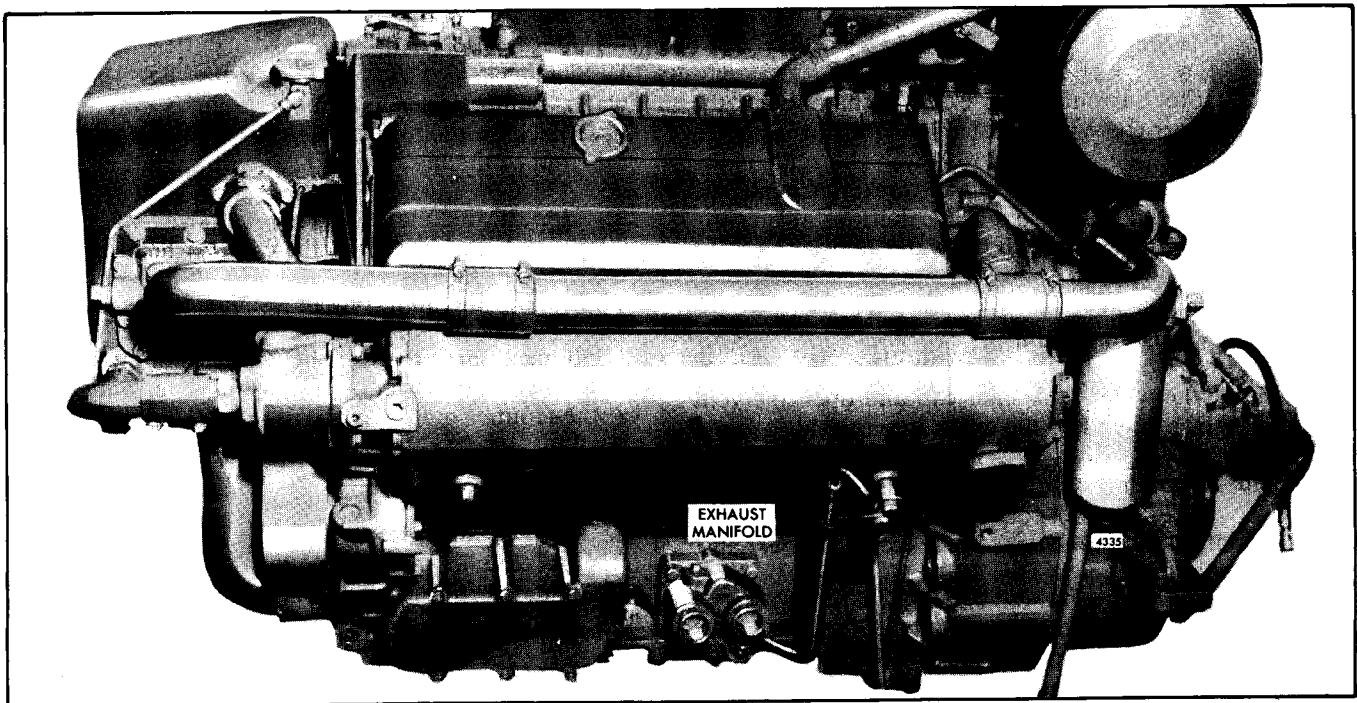

Fig. 2 - Typical Water-Cooled Exhaust Manifold Mounting (8V Engine)
3. Install the washers and nuts on the studs. If beveled (dished) washers are used, position them so that the crown side faces the nut. On some engines, crabs are used in place of washers at the end positions (Fig. 2). Beginning with one of the center stud nuts and working alternately toward each end of the manifold, tighten the nuts to 30-35 lb-ft (41-47 Nm) torque.